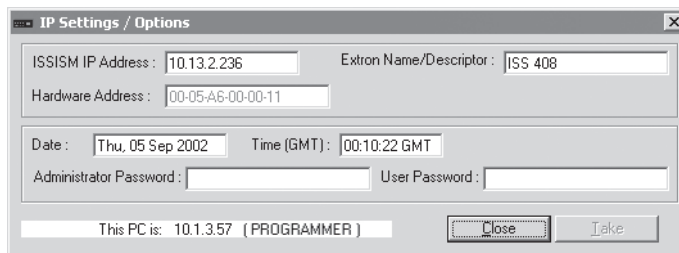

Figure 5-6 — Control program IP Setting/Options window
The IP settings/options screen (figure 5-6 on page 5-5) provides a location for observing and, if connected via the RS-232 link or if logged on via the Ethernet port as an administrator, editing settings unique to the Ethernet interface. None of the fields on this screen can be edited while logged on as a user. See *System Configuration Page* in chapter 6, *Ethernet Operation*, for details on the contents of these fields. See appendix A, *Ethernet Connection*, for other basic information about Internet protocol.
8. If desired, on the task bar, click *Tools > IP Options* to set the switcher's IP parameters in the IP Settings/Options window (figure 5-6).